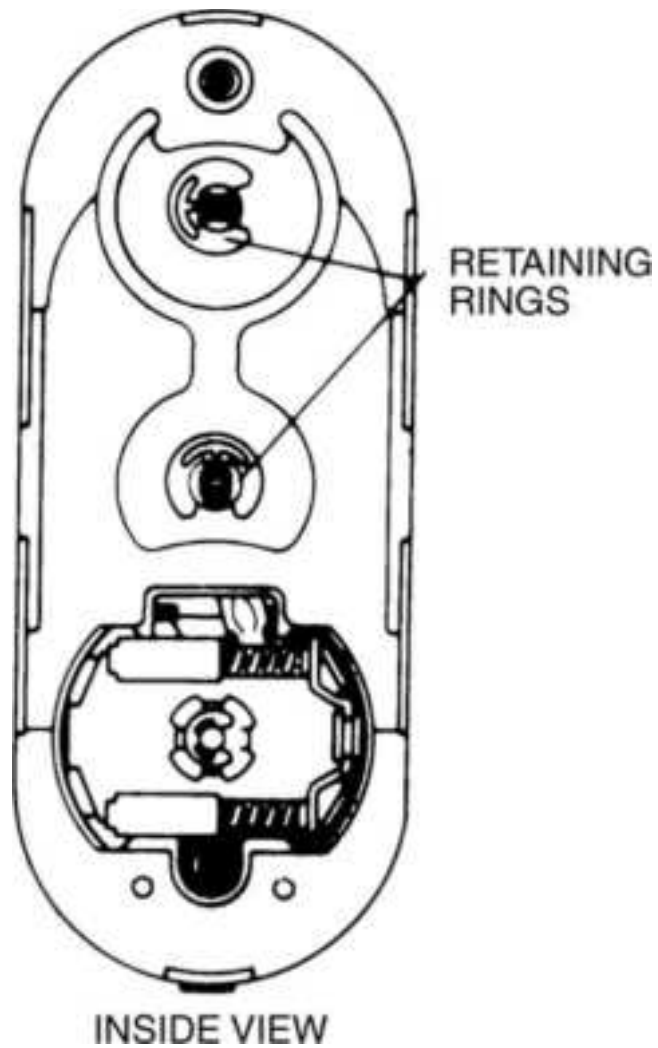

**Figure 13.88** Changing hand, Step 19.
19. Install the inside retaining rings (Fig. 13.88 ).